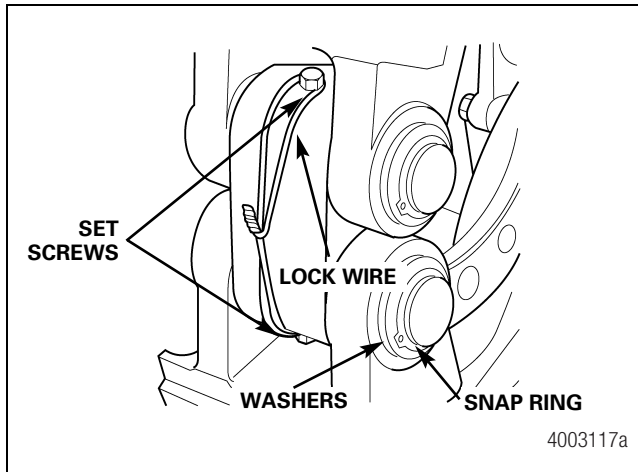

Figure 5.2
2. Remove the anchor pin snap rings, washers, set screws and lock wire. Figure 5.2.